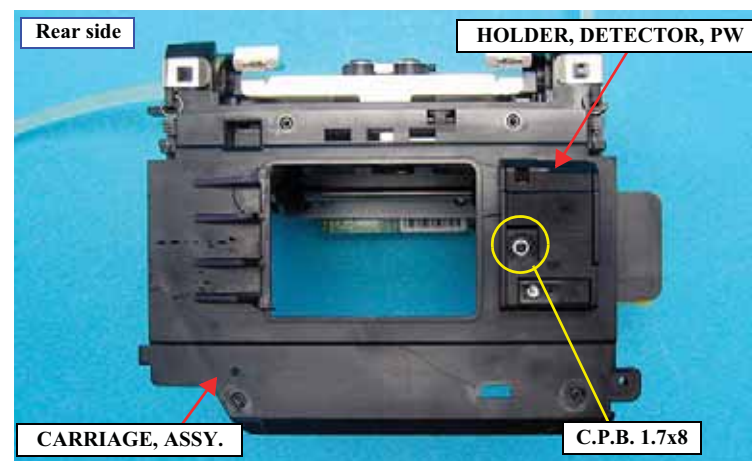

Figure 4-113. Removing the HOLDER, DETECTOR, PW
2. From the rear side of the CARRIAGE, ASSY., remove the screw that secures the HOLDER, DETECTOR, PW. *See Figure 4-113.*